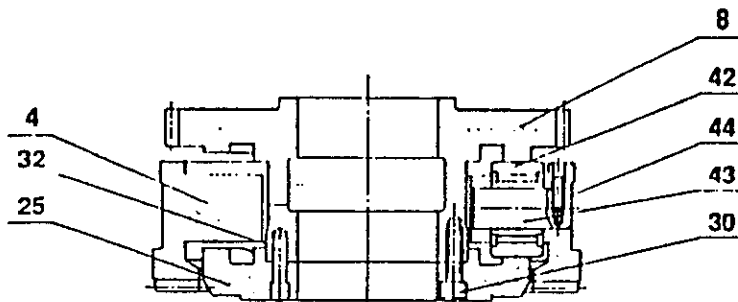

FIG 17.1
- Drum cam assembly (fig.17.1) along with the sliding coupling (4) can now be removed.
- Remove screws (30) to separate two parts of drum cam, as well as the sliding coupling.
17.11. Drum Cam Sub-assembly (Fig 17.1) : Assemble all components as shown in figure 17.1. Screws (30) and (44) should be tightened firmly after coating them with anti vibration solution like Locktite. Check for free movement of sliding coupling rollers in drum cam groove.